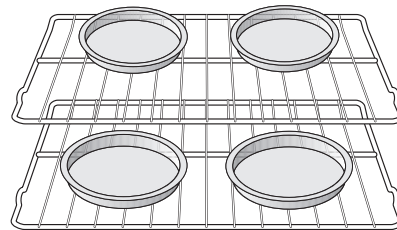
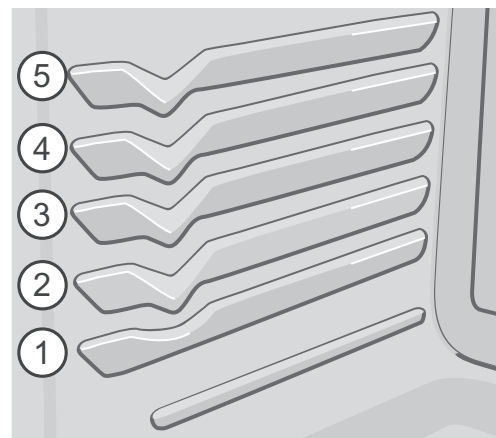

Figure 18: Convection baking on multiple levels/racks
Figure 19: Oven rack positions
- For batter and dough-based baked goods such as cakes, pastries, and breads, use the convection bake function for best results. Place the pans as shown in Figure 18.
- For best results when baking cakes or cookies using two oven racks, place racks in positions 1 and 4 (Figure 19) and place pans as shown in Figure 18. Use flat rack in position 4 and glide rack in position 1.
- When baking using two oven racks, position bakeware as shown in Figure 18. Allow at least 2 inches (5 cm) of space between bakeware for proper air circulation.